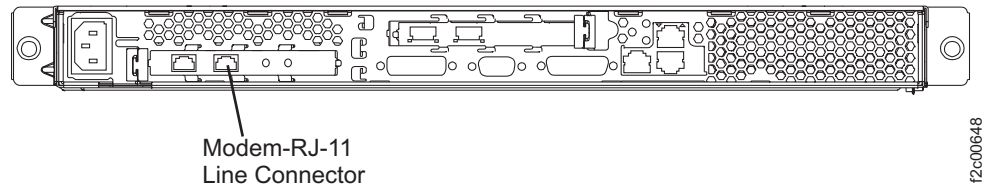
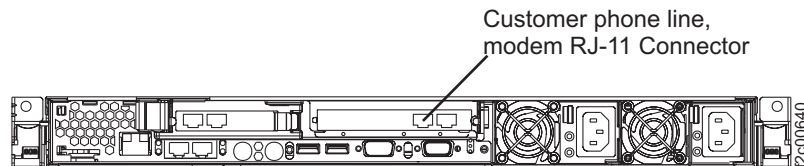

Figure 53. The modem connector (RJ-11 phone line) on the rear of the X335 management console server
Figure 54. The modem connector (RJ-11 phone line) on the rear of the X336 management console server
- b. Plug the customer's phone line cable into the line connector on the modem card at the rear of the management console server. See Figure 53 on page 59 (X335 server) or Figure 54 on page 59 (X336 server).